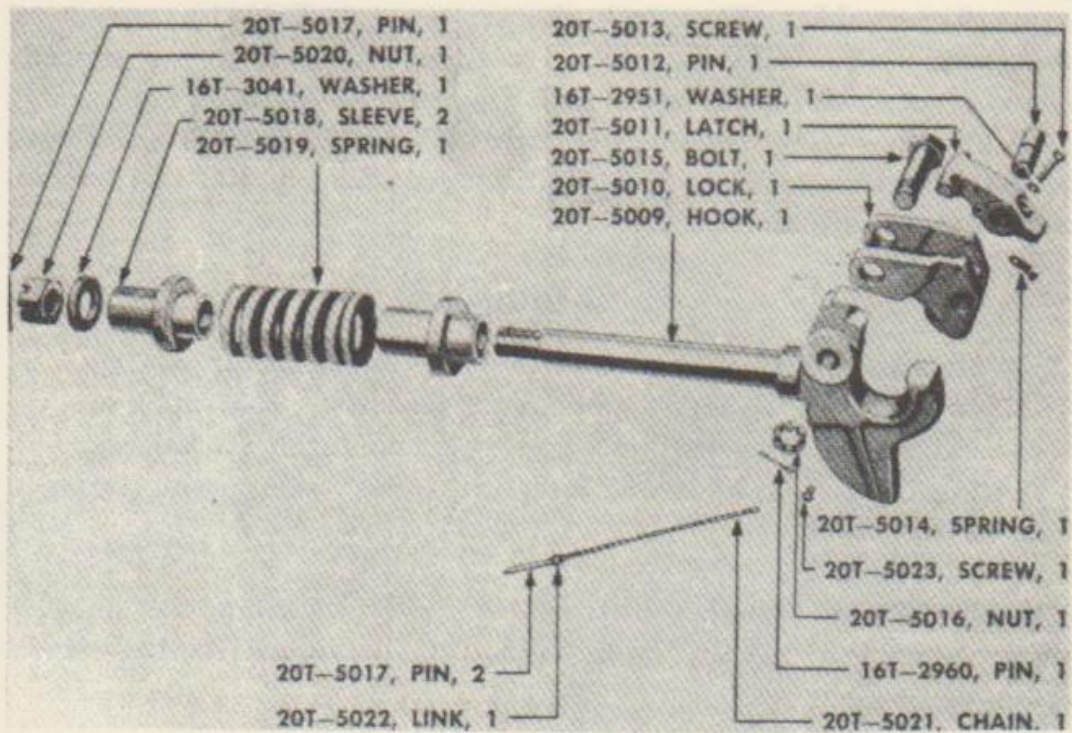

FIGURE 72. PINTLE HOOK—EXPLODED VIEW
c. **Disassembly** (fig. 72). Place shaft end of pintle hook firmly in vise. Remove cap screw and lock washer from latch and drive out latch pin. Lift out latch pin. Remove cotter pin and nut from lock bolt and pull bolt out. Turn screw holding lock pin chain and remove same.